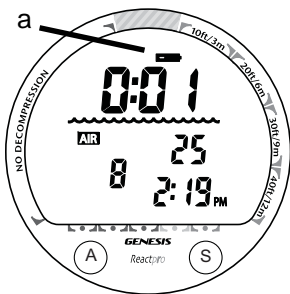

Fig. 10 - Diagnostic Mode
- Upon manual activation, the unit will enter Diagnostic Mode (Fig. 10), displaying all segments of the LCD as 8's, followed by dashes (- -), then a countdown from 9 to 0. Diagnostic Mode checks the display and Battery voltage to ensure that everything is within tolerance and functioning properly.